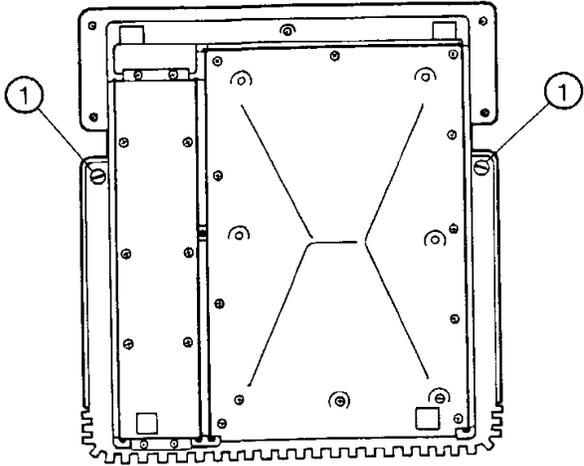

FIGURE 2
6. Lift the front of the computer and loosen the two captive screws located on the underside of the left and right corners of the face of the computer. (Figure 2, Item 1). Turn each screw about one quarter turn counterclockwise with a flat blade screwdriver.